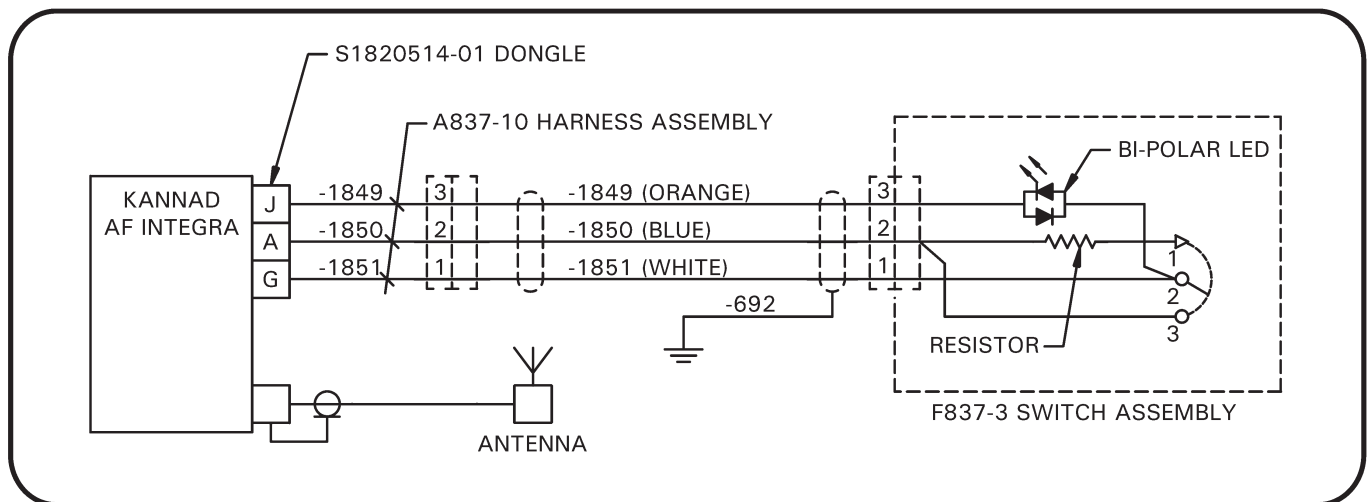

FIGURE 5
10. At forward end of three- or four-conductor shielded & jacketed wire, strip insulation from and crimp a B263-2 socket on each orange, blue, and white wire; if installed, cut green wire flush with shield. Strip insulation and crimp B260-3 terminal on one end of supplied KI-179-1B wire (marked “692”). Strip insulation on opposite end of wire (-692), remove B267-3 terminator’s lead, and heat-shrink terminator and stripped -692 wire to shield. Insert sockets in B263-15 housing per Figure 5.
11. At aft end of shielded wire, strip insulation from and crimp B263-1 pins on orange, blue, and white wires. If shielded wire has four conductors, cut green wire flush with shield. Insert pins in B263-14 housing per Figure 5.